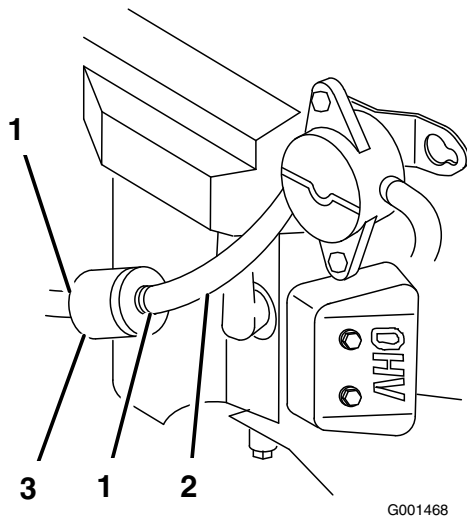

Figure 31
4. Squeeze the ends of the hose clamps together and slide them away from the filter (Figure 31).